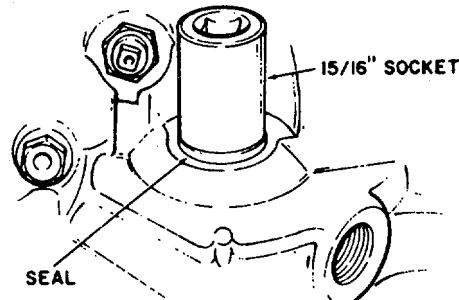

Figure 5-15. Installation of Manual Lever Shaft Seal
21. Carefully position the control valve assembly (15) in the transmission case. Install the retaining screws finger tight. With the neutral starting switch installed, place the manual valve in the neutral position. Shift the control valve body if necessary to center the neutral finger over the neutral switch plunger. Snug the bolts down evenly; then tighten to 100 pound-inches.
22. Be sure seal for manual shaft is installed. If not, carefully drive a new seal into the case with a socket and mallet. (See figure 5-15.)